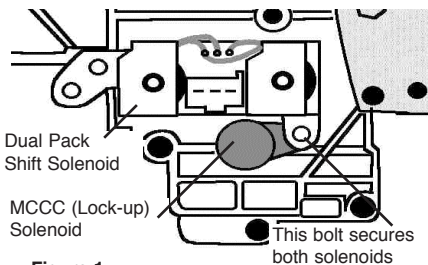
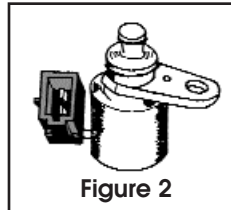

Figure 1
Figure 2
2. To Install: Insert the new Teckpak MCCC solenoid (Figure 2). Then, install the Dual Shift Solenoid into the valve body as shown in Figure 1. Tighten the bolts to specification. Plug the OEM harness connector into the center of the new Dual Shift solenoid, and connect the MCCC Lock-up solenoid.